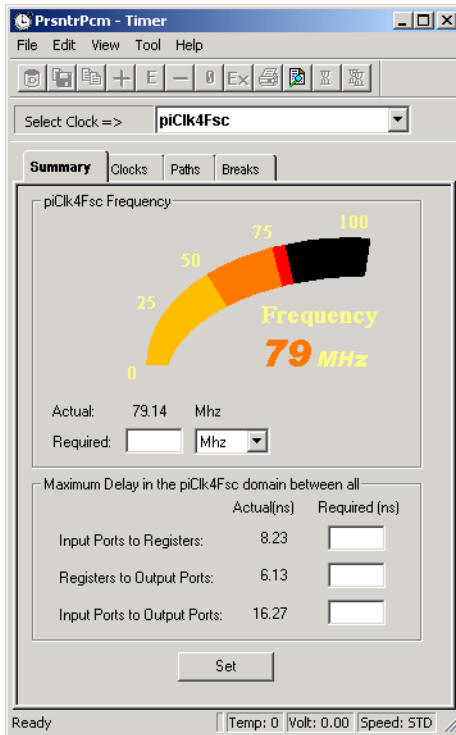

Figure 3-4. Starting Timer
- 2. **From Designer, start Timer.** Click *Timer* in the Designer Flow Window. Timer starts, as shown in Figure 3-4